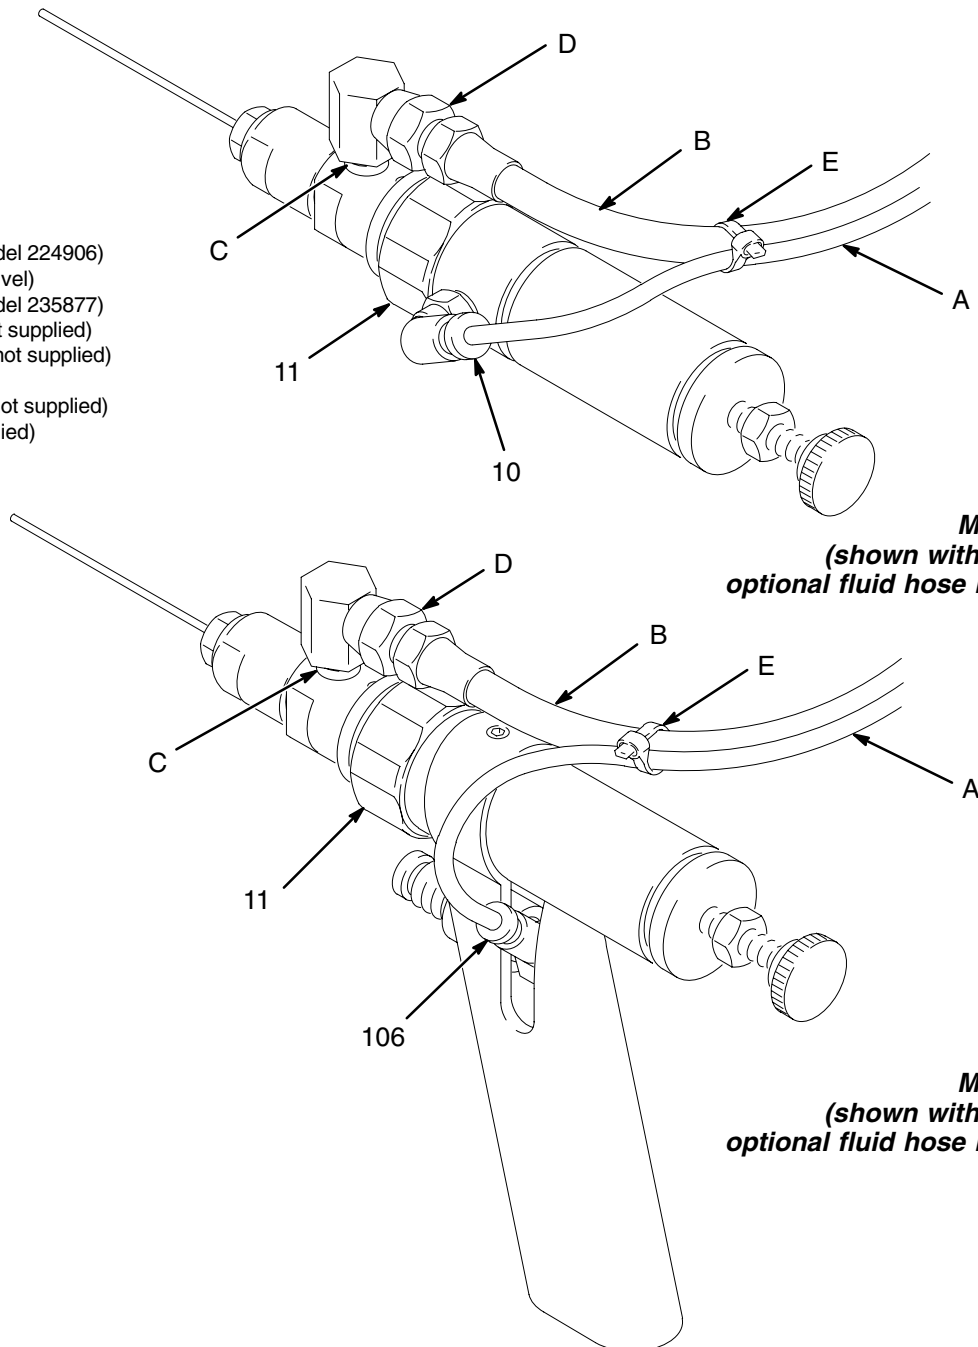

Fig. 2
1. Connect the air supply tube (A) to the air inlet fitting (10 or 106) by pushing the tube straight into the fitting until it seats. To check that the tube is secure, pull back on it gently, to ensure that it will not pull out. See Fig. 2.